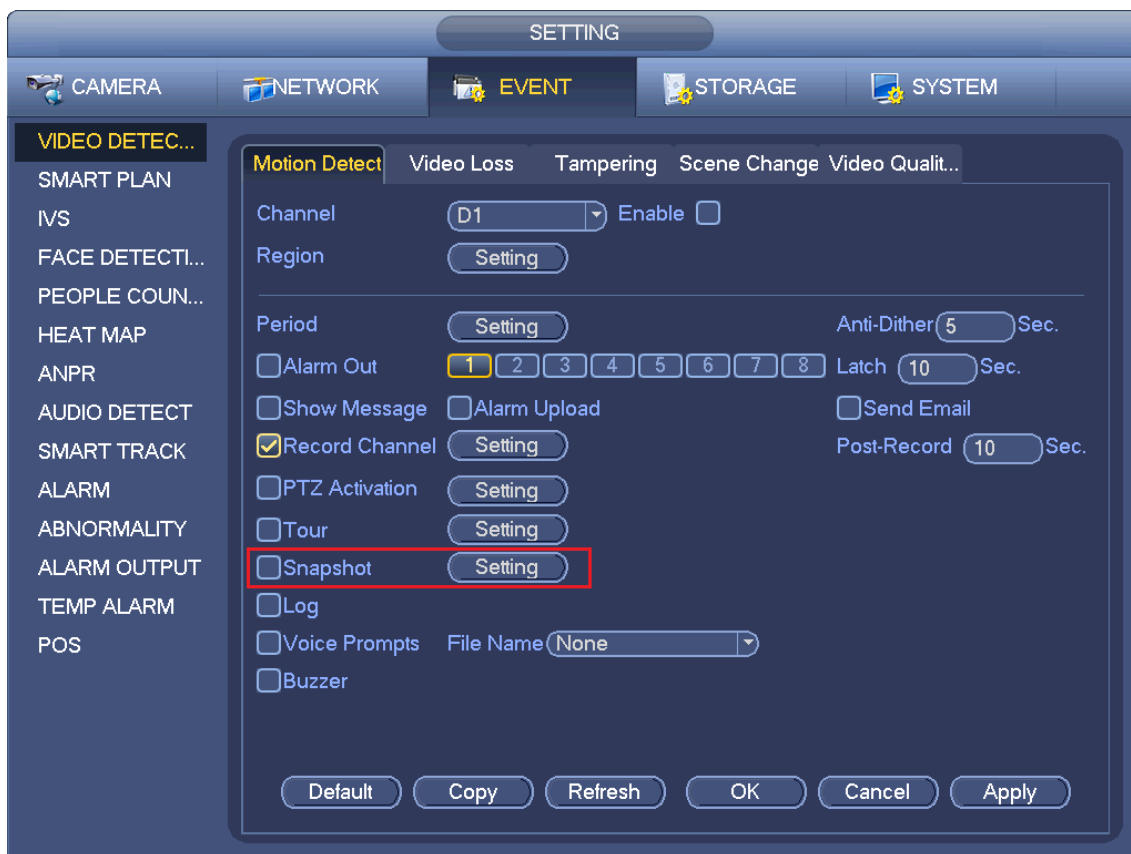

Figure 3-33
- When the record type is MD (motion detect), alarm, MD&Alarm, IVS and POS, please enable the channel snapshot function when corresponding alarm occurs. For example, when the alarm type is MD, from main menu>Setting>Event>Video Detect>Motion Detect, please select the snapshot channel and enable snapshot function. See Figure 3-33.